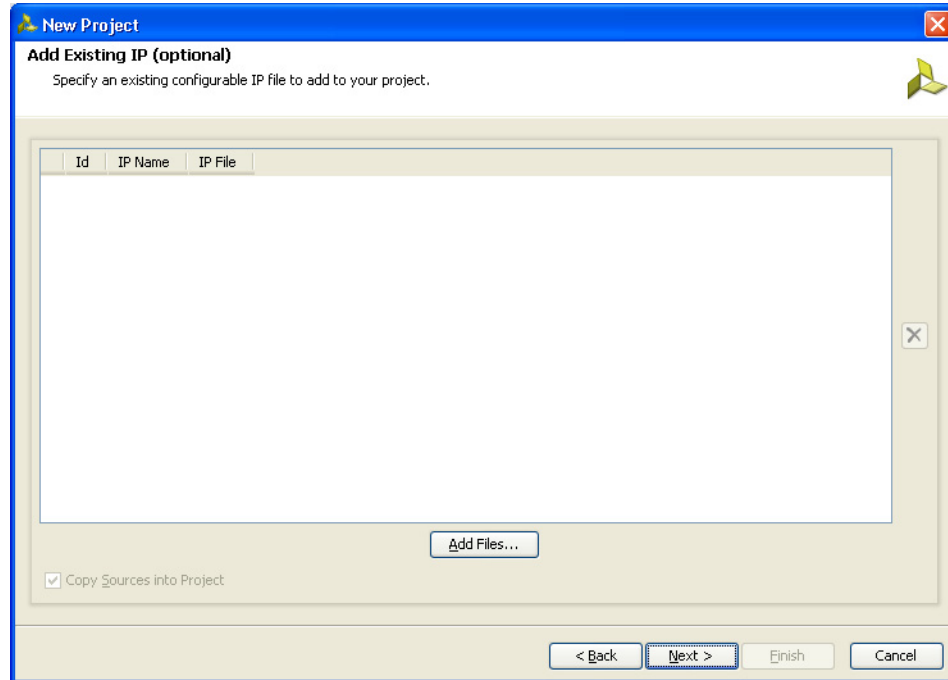

Figure 3-6: Add Existing IP (Optional)
6. Click **Next** to open the Add Existing IP (Optional) page (Figure 3-6). If the IP is already created, the XCI file generated by the IP can be added to the project and the previous created IP files are automatically added to the project. If the IP was not created earlier, proceed to the next page.